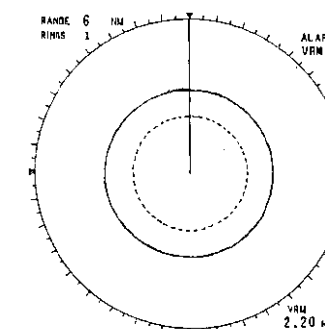
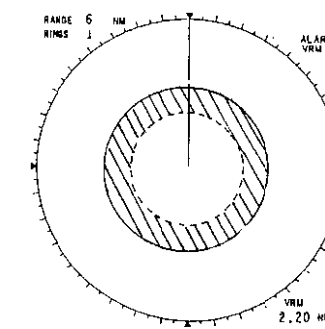

Fig.1-13
Fig.1-14
4. Press  /  until the VRM stops at 2.20nm and press the SET/RESET touchpad. A "doughnut ring" marks the inner and outer limits of the alarm. See Fig.1-13 and Fig.1-14.